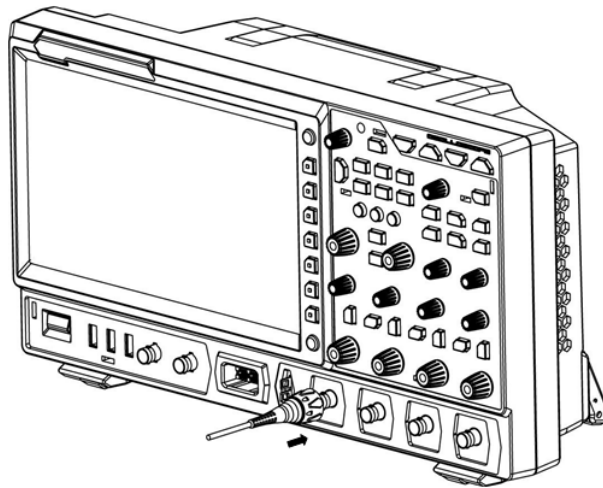

Figure 7.3 Connect the Passive Probe
1. Connect the BNC terminal of the probe to an analog channel input terminal of the oscilloscope on the front panel as shown in *Figure 7.3*.